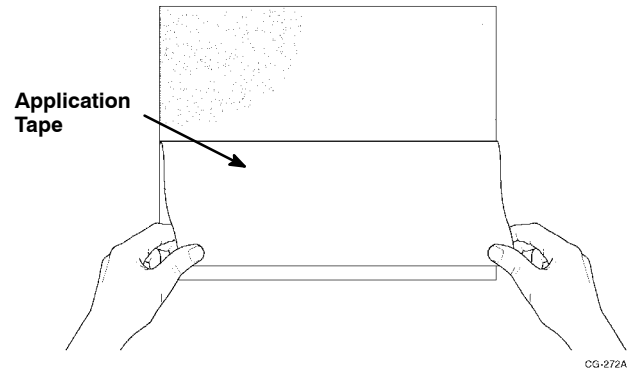

Figure 25 Removing Application Tape
5. While the final paint coat is still tacky but not wet, remove the application tape by pulling it directly back on itself at a 180 degree angle. See Figure 25.